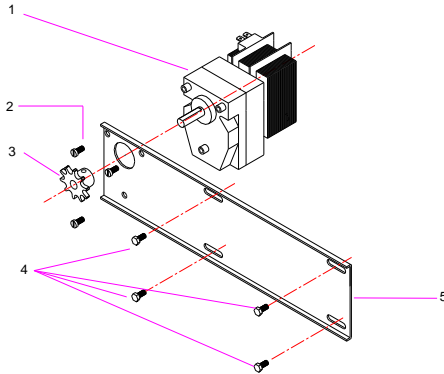

Fig. 10
- Loosen the screws (4) Fig. 10 to remove the chain that joins the pinion (3) and the axle of the first spit.
- Once the chain has been removed, totally remove the screws (4) to take out the motor support (5) along with the motor reducer.
- Loosen the screw fastening the pinion (3) to the axle of the motor reducer to remove it from the axle. Totally screws (2) to dismount the motor reducer from the support.